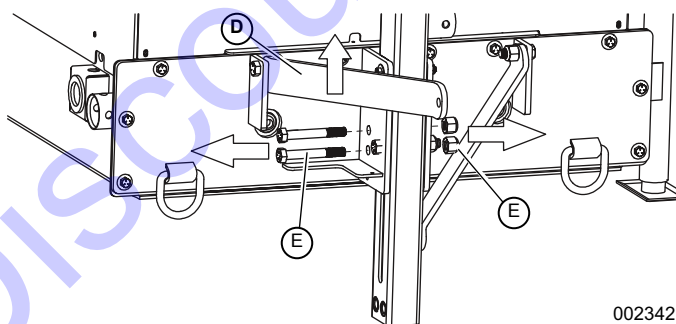

Figure 2-9. Remove Rear Bolts
5. See **Figure 2-9**. Move the right tongue brace (**D**) upward to allow access and then remove the rear bolts and nylon lock nuts (**E**) as shown.